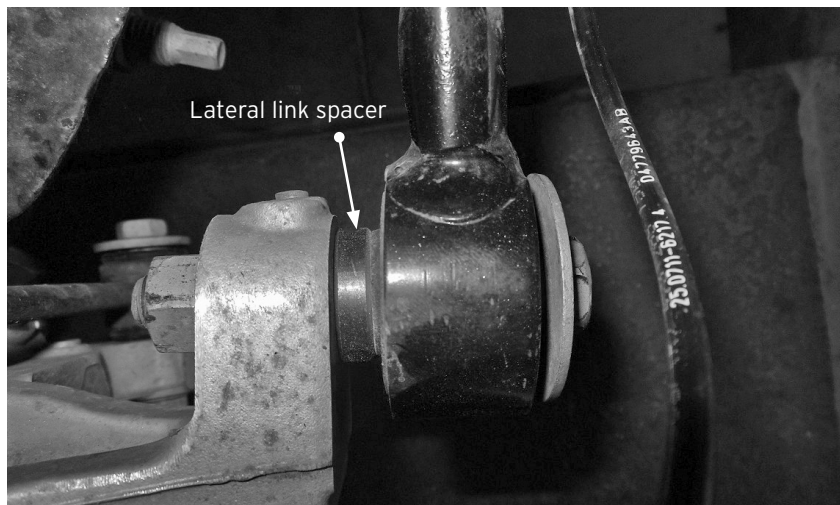

Fig. 6
5. Apply a lock washer (H) to bolt (F) and insert through the slot within the upper bracket and thread into the clamp plate within the spring perch. Tighten only finger-tight at this time.
6. Unthread the rear lateral link bolt from the knuckle. Place the spacer (C) in-between the lateral link and knuckle and reinstall the lateral link bolt (Fig. 6). Do not torque at this time.